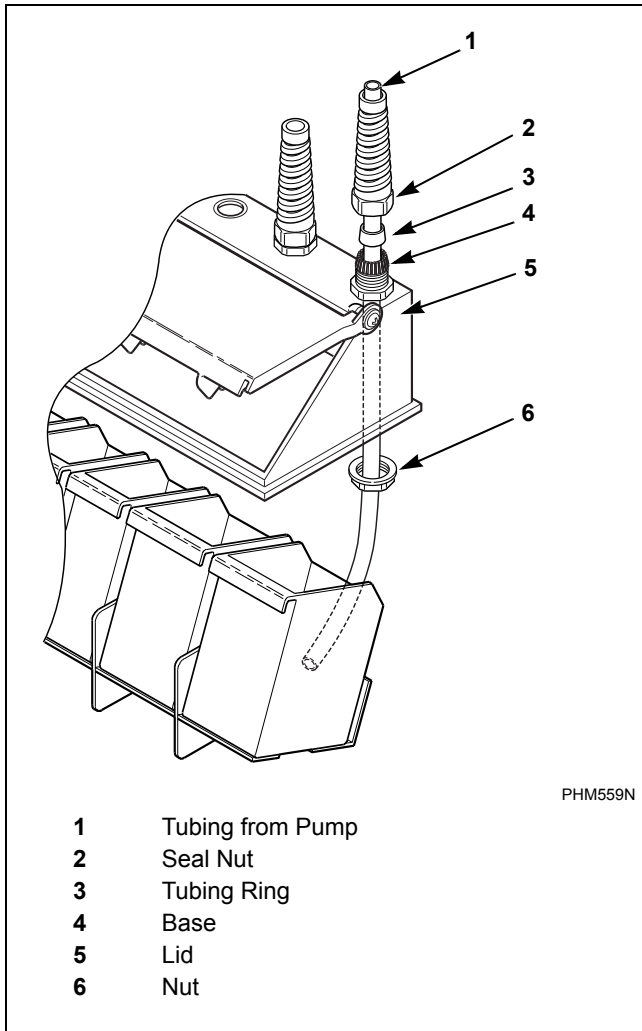

Figure 28
1. Remove knockout from supply dispenser. Refer to *Figure 28*. Plugs are assembled inside the tubing ring.